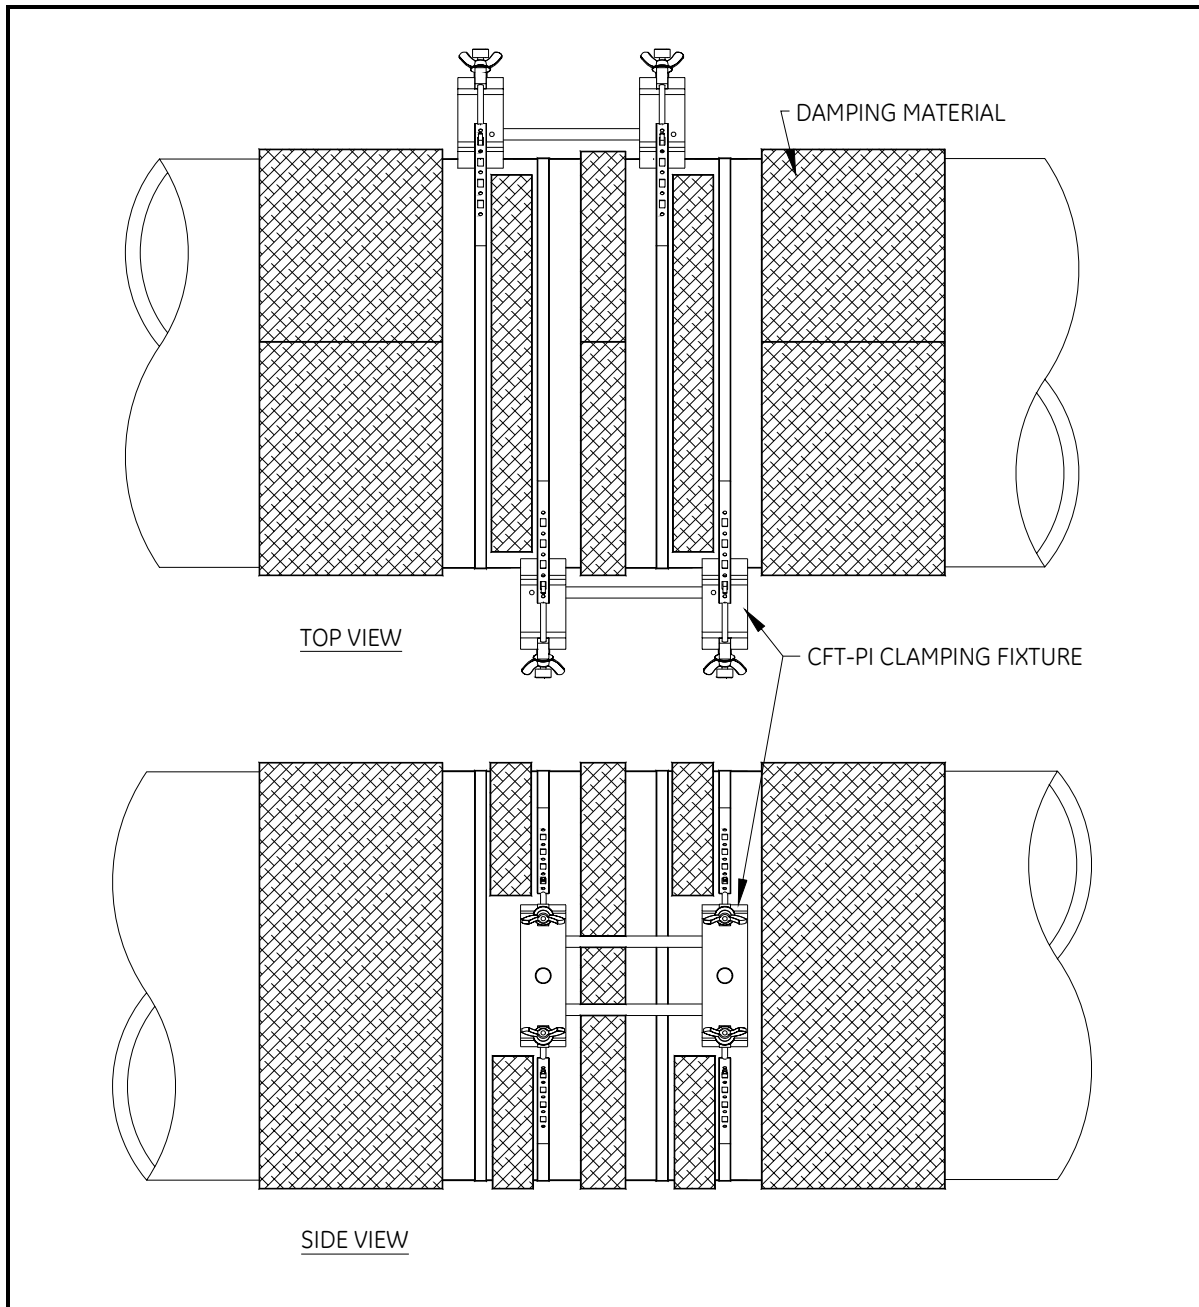
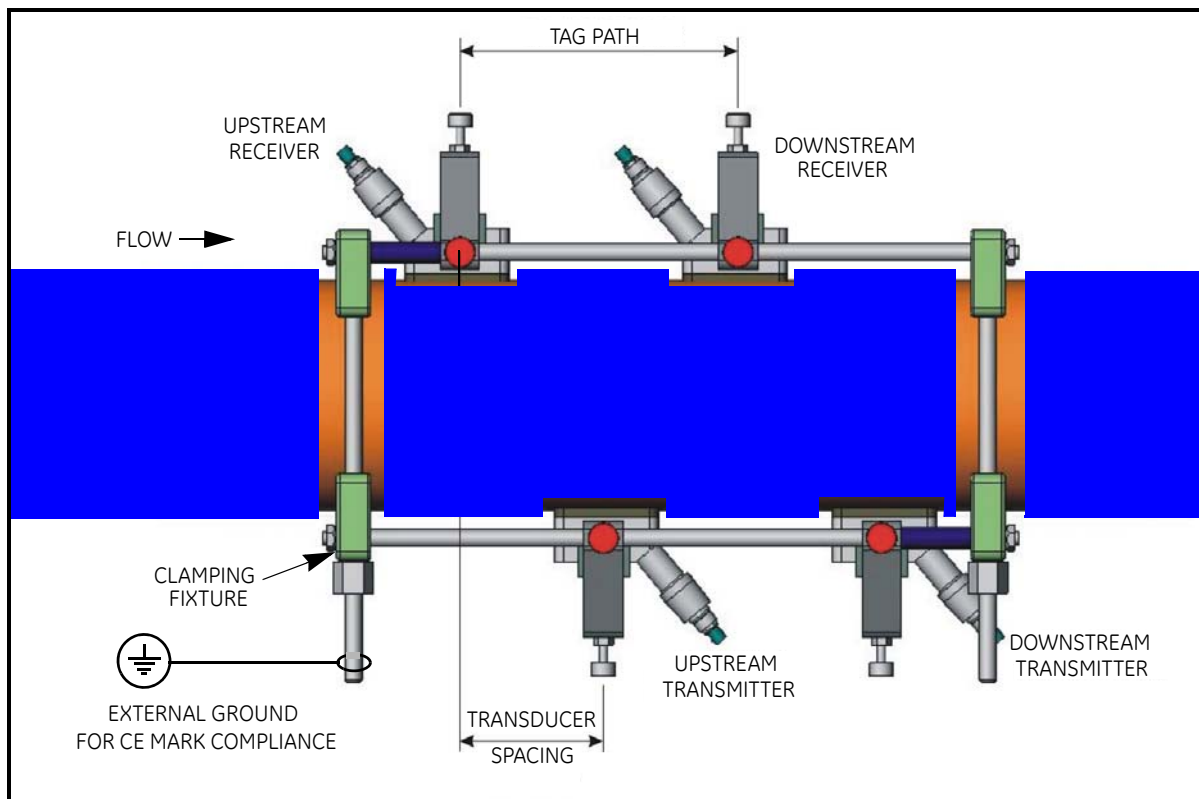

Figure 2-6: Locating Damping Material with a CFT-PI Clamping Fixture Installed
Figure 2-13: Typical CFT-V Clamping Fixture / Transducer Setup (top view of pipe)
The surface of the pipe should be covered with damping material. The three pieces of material should be placed as follows: one at each end of the fixture, and the third, cut into smaller pieces, and positioned between the straps or chains supporting the fixture. Use the following instructions and Figure 2-6 on page 2-18 as a guide:
7. Cut the third large piece of damping material into strips to fit between the two inside clamps (on opposite sides of the pipe) and between the straps or chains used to mount the clamps (see Figure 2-6 below).
If a CFT-V clamping fixture is being used, refer to Figure 2-13 below for transducer orientation and complete the following steps one transducer at a time. If a CFT-PI clamping fixture is installed, refer to Figure 2-6 on page 2-18 for transducer orientation and complete the following steps one transducer at a time.
The transducers must be connected so that the flow direction is from the Upstream pair of transducers to the Downstream pair of transducers. A pair of transducers is made up of a Receiver and a Transmitter (see Figure 2-13 on page 2-24 for a CFT-V fixture installation or Figure 2-6 on page 2-18 for a CFT-PI installation).